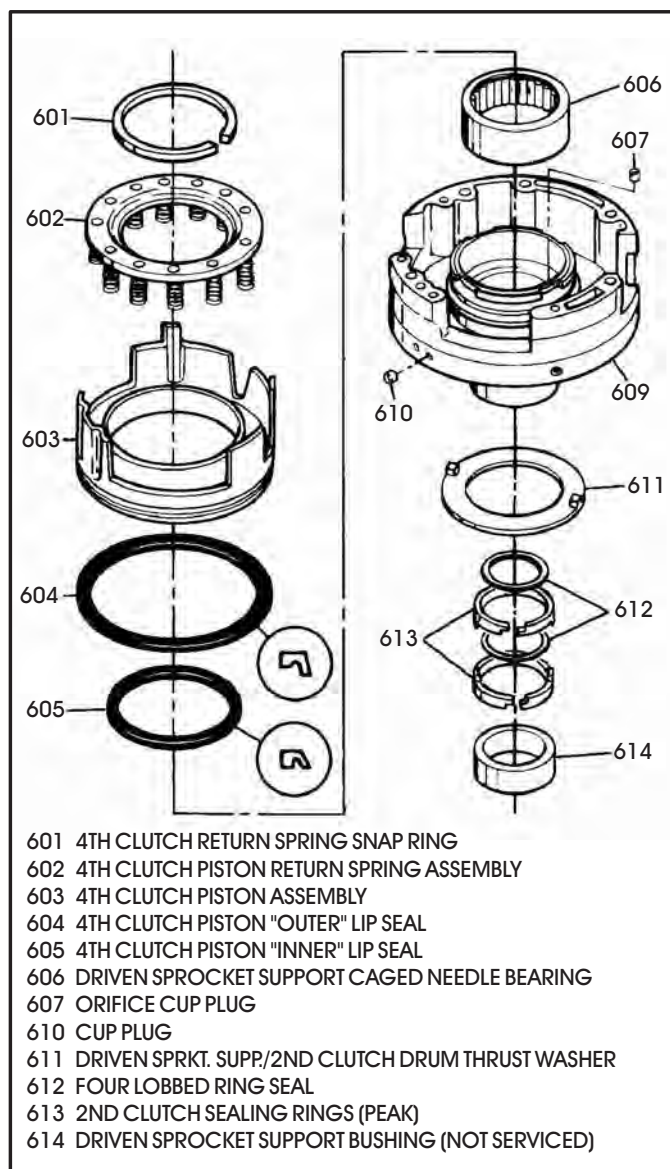

Figure 136
2. Remove the driven sprocket support parts using Figure 136 as a guide.
3. Remove and discard both of the 4th clutch lip seals (See Figure 136).
7. Install new 4th clutch piston seal into groove in piston, with the lip facing in the direction shown in Figure 136, and lube with Trans-Jel®.
8. Install new 4th clutch piston seal into groove in driven sprocket support, with lip facing in the direction shown in Figure 136, and lube with small amount of Trans-Jel®.
9. Install the 4th clutch piston into driven sprocket support, as shown in Figure 136.
10. Install the 4th clutch piston return spring on top of the piston, as shown in Figure 136.
12. Turn driven sprocket support over and install new four lobbed rubber rings into the grooves in sprocket support (See Figures 136 & 137).
13. Install the 2nd clutch sealing rings on top of the 4 lobe rubber rings (See Figures 136 & 137).